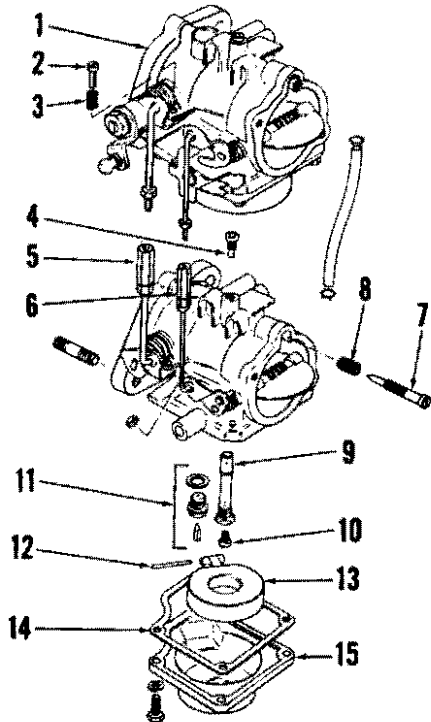

Fig. SZ14-1—Exploded view of Mikuni carburetors typical of all models.
CARBURETOR. Mikuni type B40-32 carburetors are used on all models. Refer to Fig. SZ14-1 for exploded view. Initial setting of pilot air screw (7) from a lightly seated position should be 1 3/4 to 2 1/4 turns on DT50 models prior to 1984 and DT65 models and 1 1/2 to 2 1/2 turns on 1984 DT50 models and DT60 models. Final carburetor adjustment should be made with engine at normal operating temperature and running in forward gear. Rotate timing adjustment screw (B—Fig. SZ14-11) in small increments until engine idles at approximately 650-700 rpm. Adjust pilot air screw so engine idles smoothly and will accelerate cleanly without hesitation. If necessary, readjust timing adjustment screw to obtain 650-700 rpm idle speed.
To synchronize throttle plate opening of top carburetor with bottom carburetor, use Suzuki carburetor balancer 09913-13121 or equivalent and make adjustment at throttle shaft connector (5—Fig. SZ14-1).